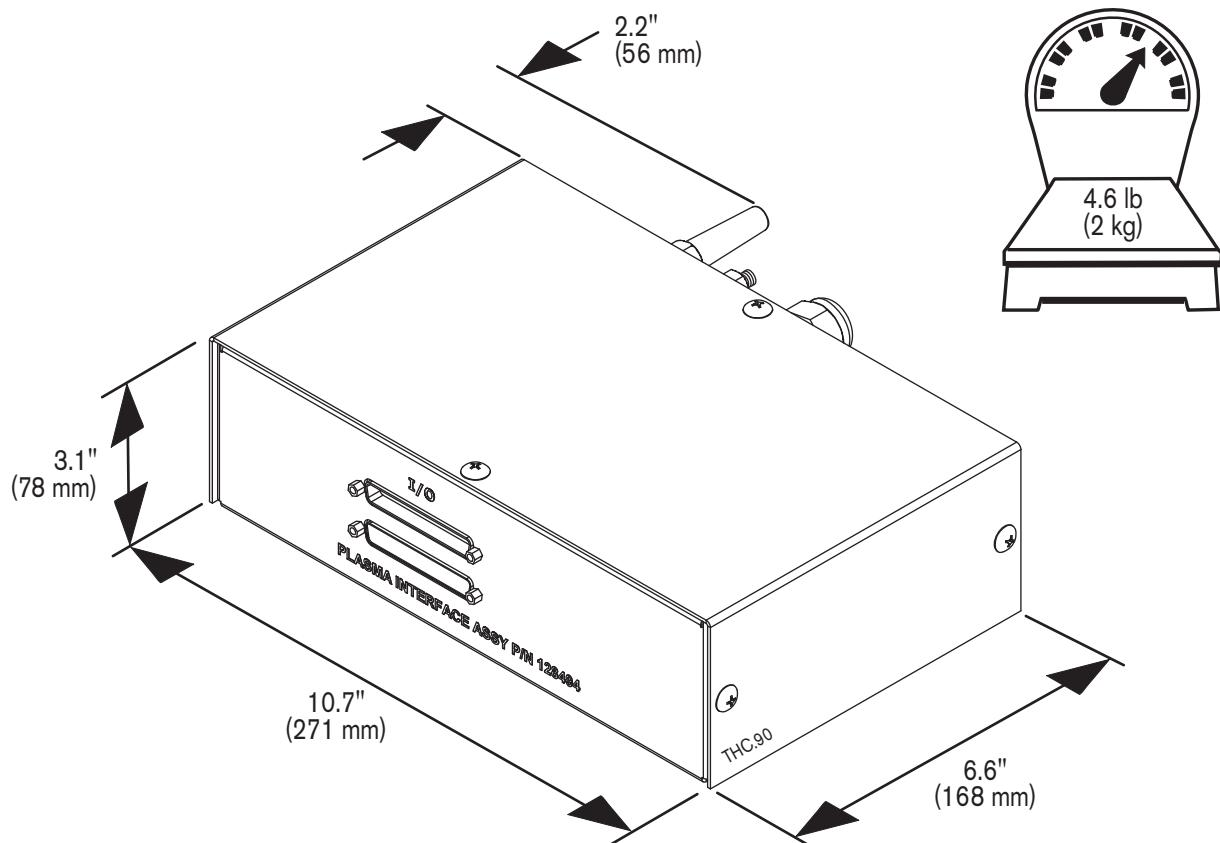

Figure 2-3 Plasma interface assembly
- **Plasma interface assembly with voltage divider** (Figure 2-3) The plasma interface houses an interface PCB which provides a communications link between the THC control module and the plasma power supply. The voltage divider provides a 41 : 1 signal which is derived from the cutting arc voltage. For example, if the arc voltage is 150 volts, the resultant 3.66-volt output signal is used to control the stand-off distance between the torch and workpiece during plasma cutting.